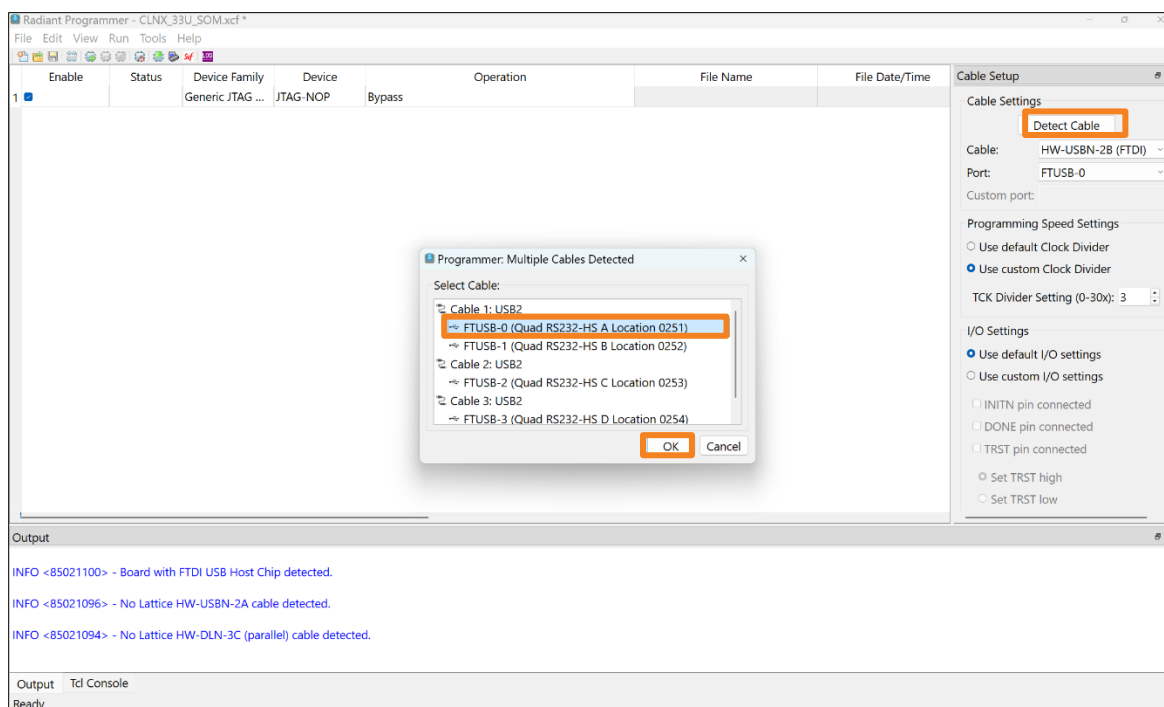

Figure 6.3. Radiant Programmer – Detect Cable
6. Click **Detect Cable**. A Pop-up window appears. Select **FTUSB-0** for JTAG programming. Click **OK** (Figure 6.3).